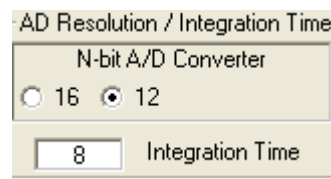

FIGURE 12.
- **Integration Time** in Figure 12, corresponds to the resolution of the internal ADC and the number of bits allocated to representing Count. Higher resolution (more bits) requires a large number of counts and will need longer acquisition (integration) time.